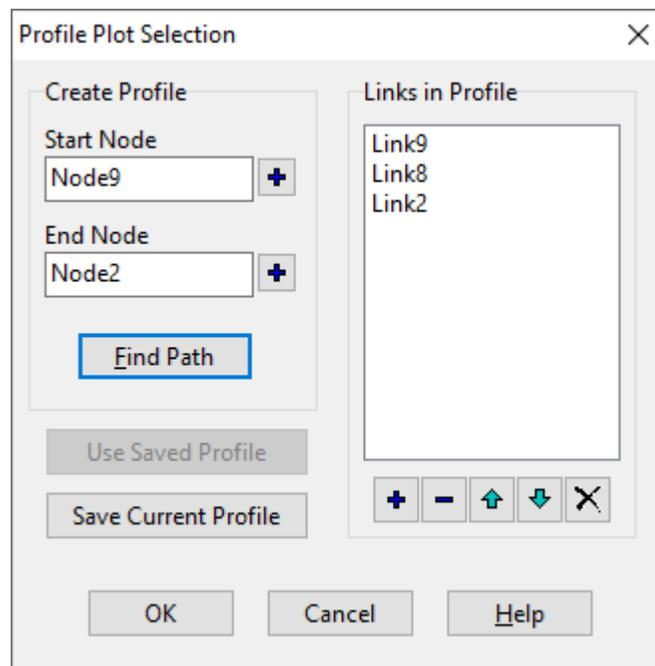

Figure 10 Profile Plot Selection dialog with data already filled in
7. Click **Create a Profile Plot**  to bring up the *Profile Plot Selection* dialog (Figure 10).